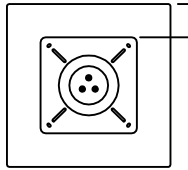

Fig. 2
2. See Important Tip below as shown in Fig. 2.